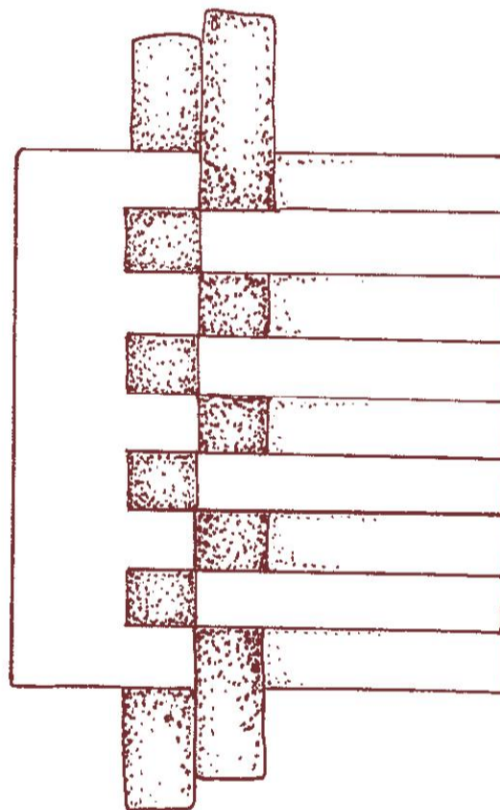

Figure 2
**7** Begin the over/under weaving by threading the paper in and out of the copper foil. The foil strips can be positioned in the over/under pattern with the paper laid in if weaving the paper is too difficult. Either way, follow each row with the opposite weave to create the grid (see figure 2).